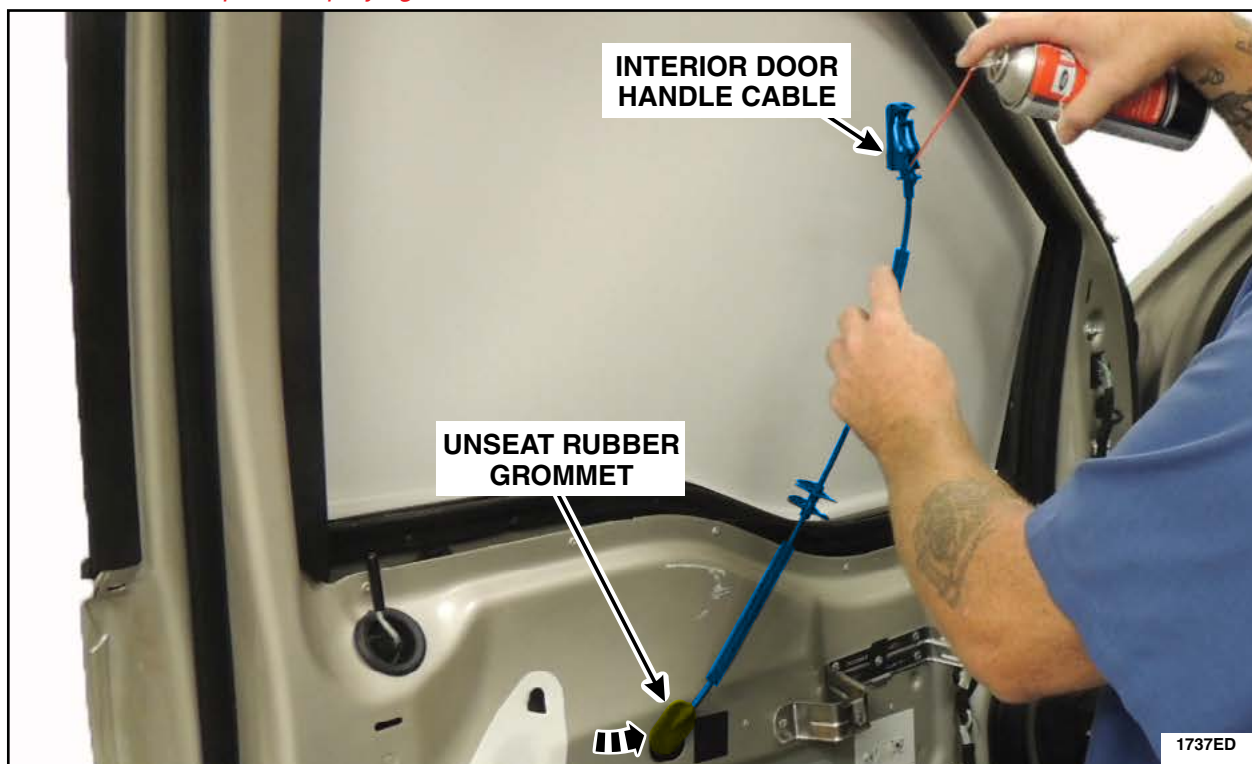

FIGURE 12
17. Unseat the interior door handle cable rubber grommet and while holding the end of the cable in an upward position, spray Motorcraft® XL-6 silicone lubricant down into the cable for five seconds. See Figure 12.